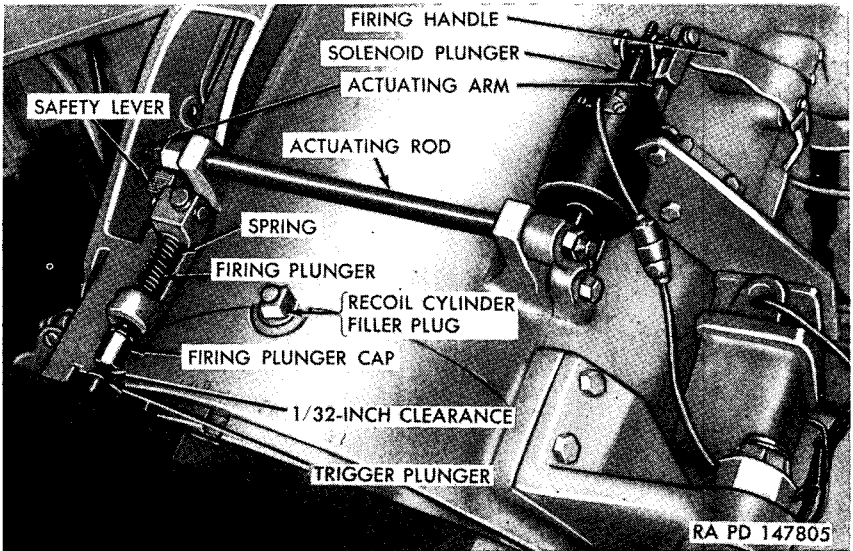

Figure 349. Firing linkage.
a. GENERAL. The combination gun mount M78 (figs. 350 and 351) consists principally of the gun shield and adapter assembly, the hydro-spring type recoil mechanism concentric with the 90-mm gun, the breech guard, and the cradle assembly which mounts, coaxially with the 90-mm gun, either a cal. .50 HB Browning machine gun M2 or a cal. .30 M1919A4 Browning machine gun. On the combination mount are mounted the impulse relay and firing solenoid for firing the 90-mm gun electrically and the mechanism for hand-firing it, the firing linkage (fig. 349) to the gun trigger plunger in the breech ring, and the cam which operates the breech operating mechanism. The solenoid for electrical firing of a cal. .30 machine gun mounted in the coaxial machine gun mount is on the combination gun mount. The firing solenoid for the cal. .50 machine gun mounts on the machine gun and is actuated by the same firing cable and control. Provision is made for elevating, depressing, and traversing the coaxial machine gun mount to aline it exactly with the 90-mm gun.
a. The firing linkage of the 90-mm gun T119E1 (fig. 349) consists of a firing plunger, spring, firing plunger cap, actuating rod and arms, solenoid plunger, and firing handle, and actuating mechanism. An electrical relay and firing solenoid are provided to enable the gun to be fired electrically as well as manually (par. 79). The firing mechanism is rendered inoperative by a safety lever on the firing plunger (figs. 41 and 349).
d. When the firing controls are released, the firing plunger is returned to its original position by the action of the firing plunger return spring (fig. 349).
a. **FIRING PLUNGER GROUP.** To remove the firing plunger group (fig. 349), remove two cap screws and washers which secure the supporting bracket to the gun cradle and tilt the forward end upward to free the plunger from the left actuating arm.